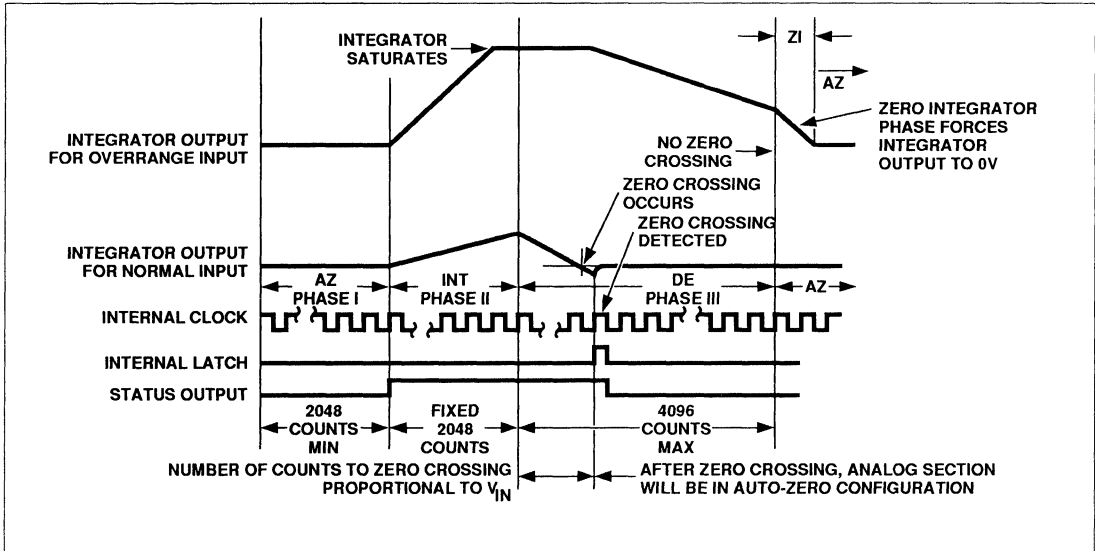

Figure 3 Conversion Timing (RUN/HOLD Pin High)
The functional diagram shows a block diagram of the analog section of the TC7109A. The circuit will perform conversions at a rate determined by the clock frequency (8192 clock periods per cycle), when the RUN/HOLD input is left open or connected to V^+ . Each measurement cycle is divided into four phases, as shown in Figure 3. They are: (1) Auto-Zero (AZ), (2) Signal Integrate (INT), (3) Reference Deintegrate (DE), and (4) Zero Integrate (ZI).
During ZI, the reference capacitor is charged to the reference voltage. The signal inputs are disconnected from the buffer and integrator. The comparator output is connected to the buffer input, causing the integrator output to be driven rapidly to 0V (Figure 3). The ZI phase only occurs following an overrange and lasts for a maximum of 1024 clock periods.
During a conversion cycle, the STATUS output goes high at the beginning of signal integrate and goes low one-half clock period after new data from the conversion has been stored in the output latches (see Figure 3). The signal may be used as a "data valid" flag to drive interrupts, or for monitoring the status of the converter. (Data will not change while status is low.)
With the RUN/HOLD input high, or open, the circuit operates normally as a dual-slope ADC, as shown in Figure 3. Conversion cycles operate continuously with the output latches updated after zero crossing in the deintegrate mode. An internal pull-up resistor is provided to ensure a high level with an open input.